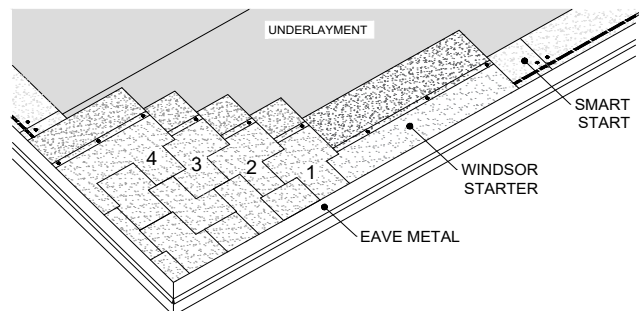

Figure 19 - Windsor® Shingle Layout Pattern with Smart Start™ and Windsor® Starter Shingles
- d. Secure with fasteners. **(See Figure 19)**